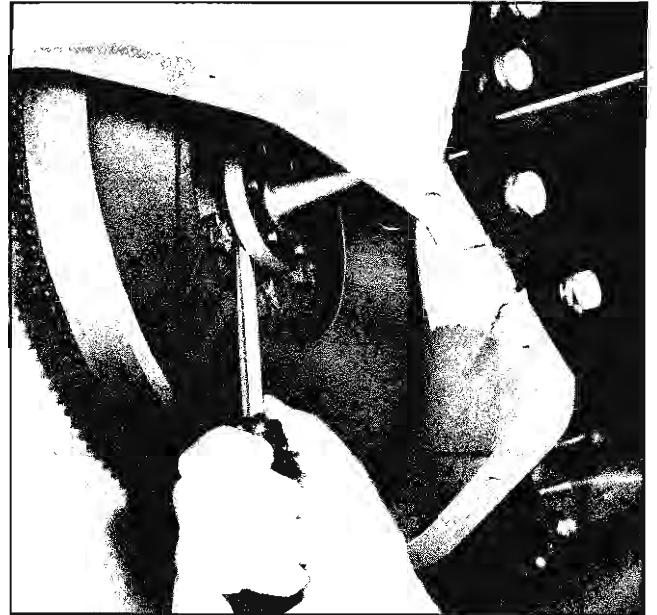

Fig. 4-16 Removing Propeller Shaft from Flywheel
7. Using a screwdriver or other suitable tool, pry propeller shaft flange (while holding with hand) to the rear far enough for pilot to clear recess in flywheel (Fig. 4-16).